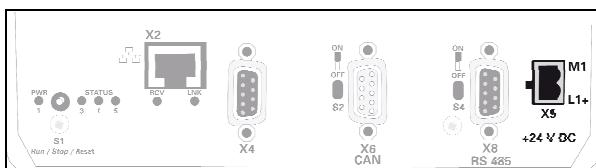

Fig. 14: Power supply
- Connecting the power supply:** Connect the power line using the supplied connector with the X9 interface on the rear of the device (see Fig. 14/10).